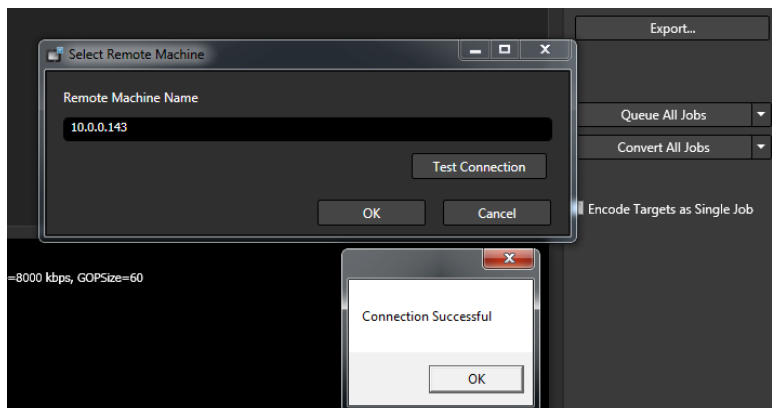

Figure 14. Entering the remote machine address and testing the connection.
2. Cambria opens the Select Remote Machine Dialog. In that dialog, type the local address for the Cluster Manager (Figure 14). If you don't know the address, open a browser and navigate to www.whatismyip.com.